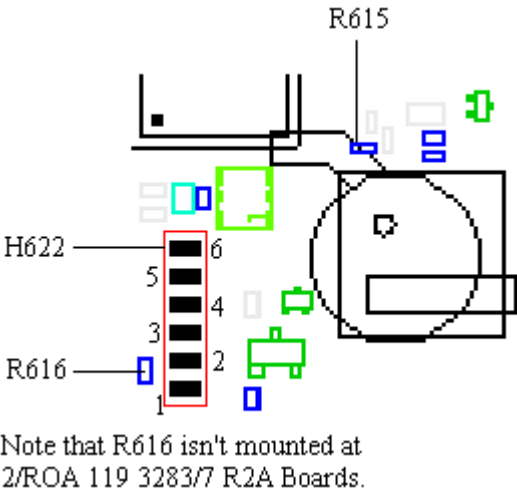

Fig. 3.4
If the voltages at V608 are correct but the display is totally empty when phone is on, measure the voltages at the display pads, H622 (fig. 3.4):
- If VDIG is correct, measure the resistance of R619 (class A, 2.2 kohms, fig. 3.2), R620 (class A, 2.2 kohms, fig. 3.2), R615 (class A, 10 kohms, fig. 3.4) and R616 (class A, 10 kohms, fig. 3.4). Make sure the solderings at D600 pads 3 and 4 (fig. 3.1) are correct.